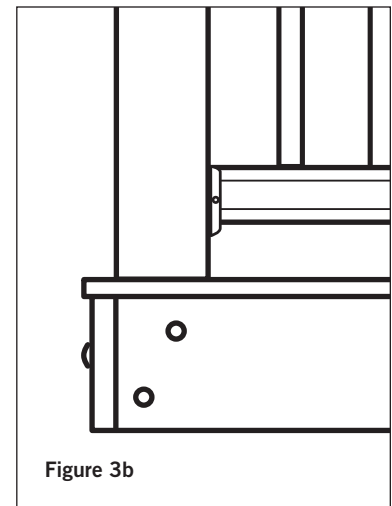

Figure 3b
Step 3 Position, plumb with a level, and clamp the rail post on the interior face of the joist. Plumb again. The 4x4 railing post should be bolted to the inside of the joists using two 1/2"x6" galvanized carriage bolts. Corner posts use a third carriage bolt inserted through the adjacent joist (**Figure 3b**).
Step 2 Position, plumb with a level, and clamp the rail post on the interior face of the stair stringer. Plumb again. The 4x4 railing post should be bolted to the inside of the stair stringer using two 1/2" x 6" galvanized carriage bolts. Corner posts use a third carriage bolt inserted through the adjacent joist (**refer to Figure 3b**). Ground level posts should be set in concrete.